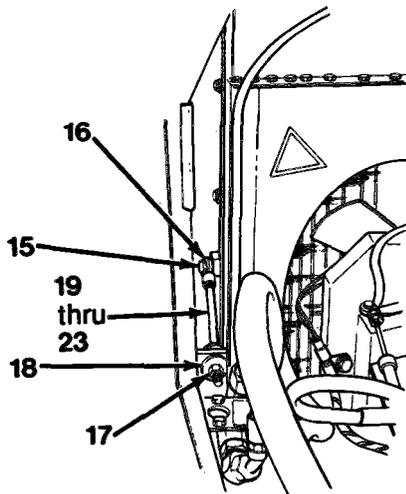
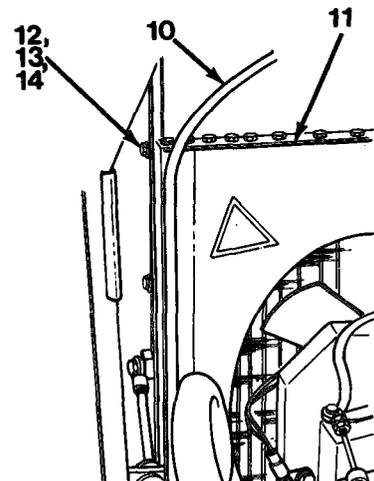

Figure 9-7
Figure 9-6
5. Install rod assembly (19 thru 23) and secure with two spacers (18) and nuts (17, Figure 9-7).
6. Scam two rod ends (16) to radiator with cap screws (15).
7. Install shroud (11), eight washers (14), lock-washers (13) and capscrews (12) to radiator. Secure overflow hose (10, Figure 9-6) in clips on shroud (11).